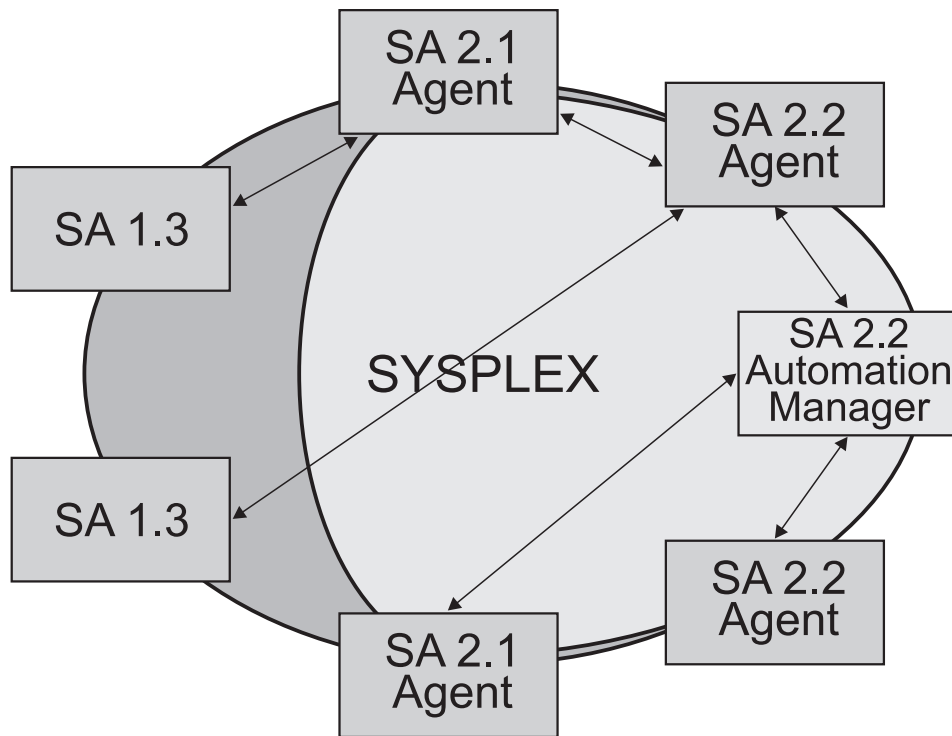

Figure 34. Coexistence of SA OS/390 1.3, SA OS/390 2.1, and SA OS/390 2.2
- SA OS/390 2.2 systems can co-exist with SA OS/390 1.3 and SA OS/390 2.1 systems within the same sysplex. Figure 34 on page 186 illustrates this: It shows a sysplex with six automated systems and a separate automation manager.